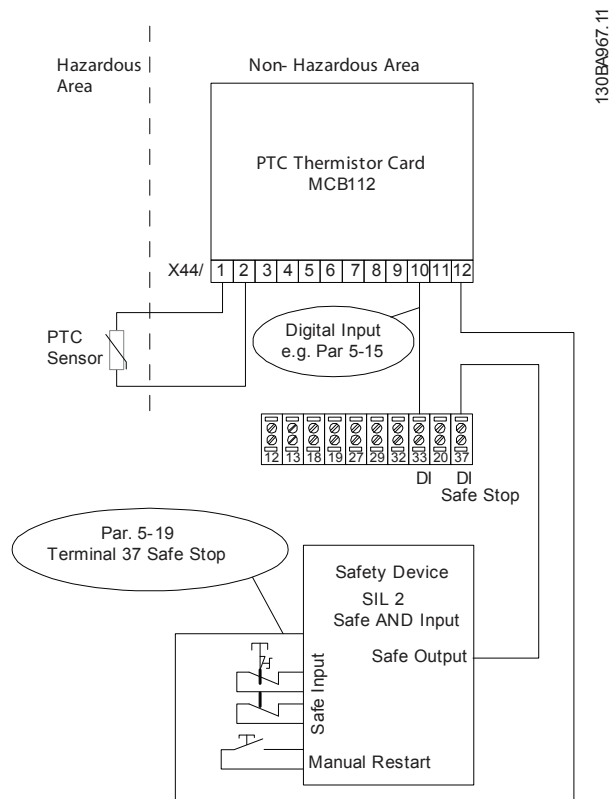

Figure 3.3 Combination of a Safe Torque Off Application and an MCB 112 Application
- Short-circuit protect the connection from the output of the safety device with safe AND-logic to the Safe Torque Off terminal 37, see Figure 3.3.
Figure 3.3 shows a Restart input for the external safety device. This means that in this installation 5-19 Terminal 37 Safe Stop can be set to value [7] PTC 1 & Relay W or [8] PTC 1 & Relay A/W. Refer to MCB 112 Instruction Manual for further details.